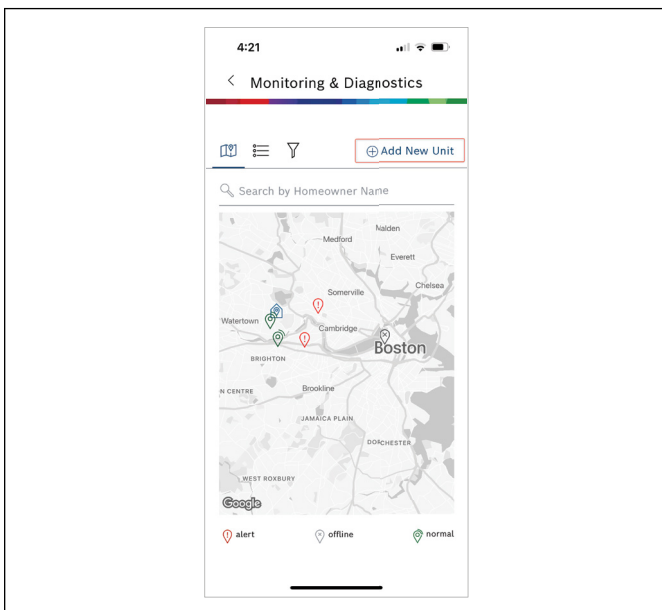

Figure 57
6. Select "Add new Unit" and follow on screen steps that includes scanning the outdoor unit serial number and gateway QR code (Figure 57).